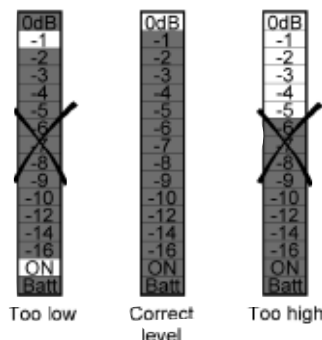

Figure 5. Adjusting the subwoofer levels for a 0dB peak
Press **Play ▶**. As Track 3 plays, watch the RSLM carefully. Watch for peak readings. The peak reading may be no more than a brief flash. Readjust the subwoofer's **Level control ⑥** until the peak level observed is 0dB without triggering the over-range indication. See Figure 5.